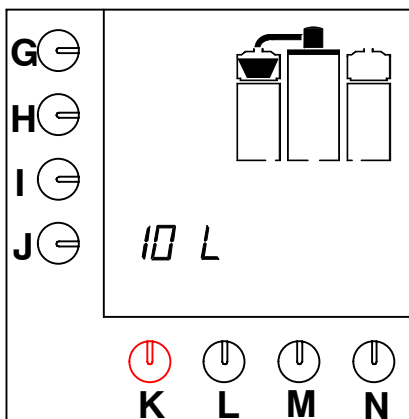

Fig. 9 Dripping-on time
- As soon as the coffee container has been filled, the filter pan flashes on the display for the dripping-on time (fig.9).
- The indicator lamp lights up. The default options appear in the display (fig.9).